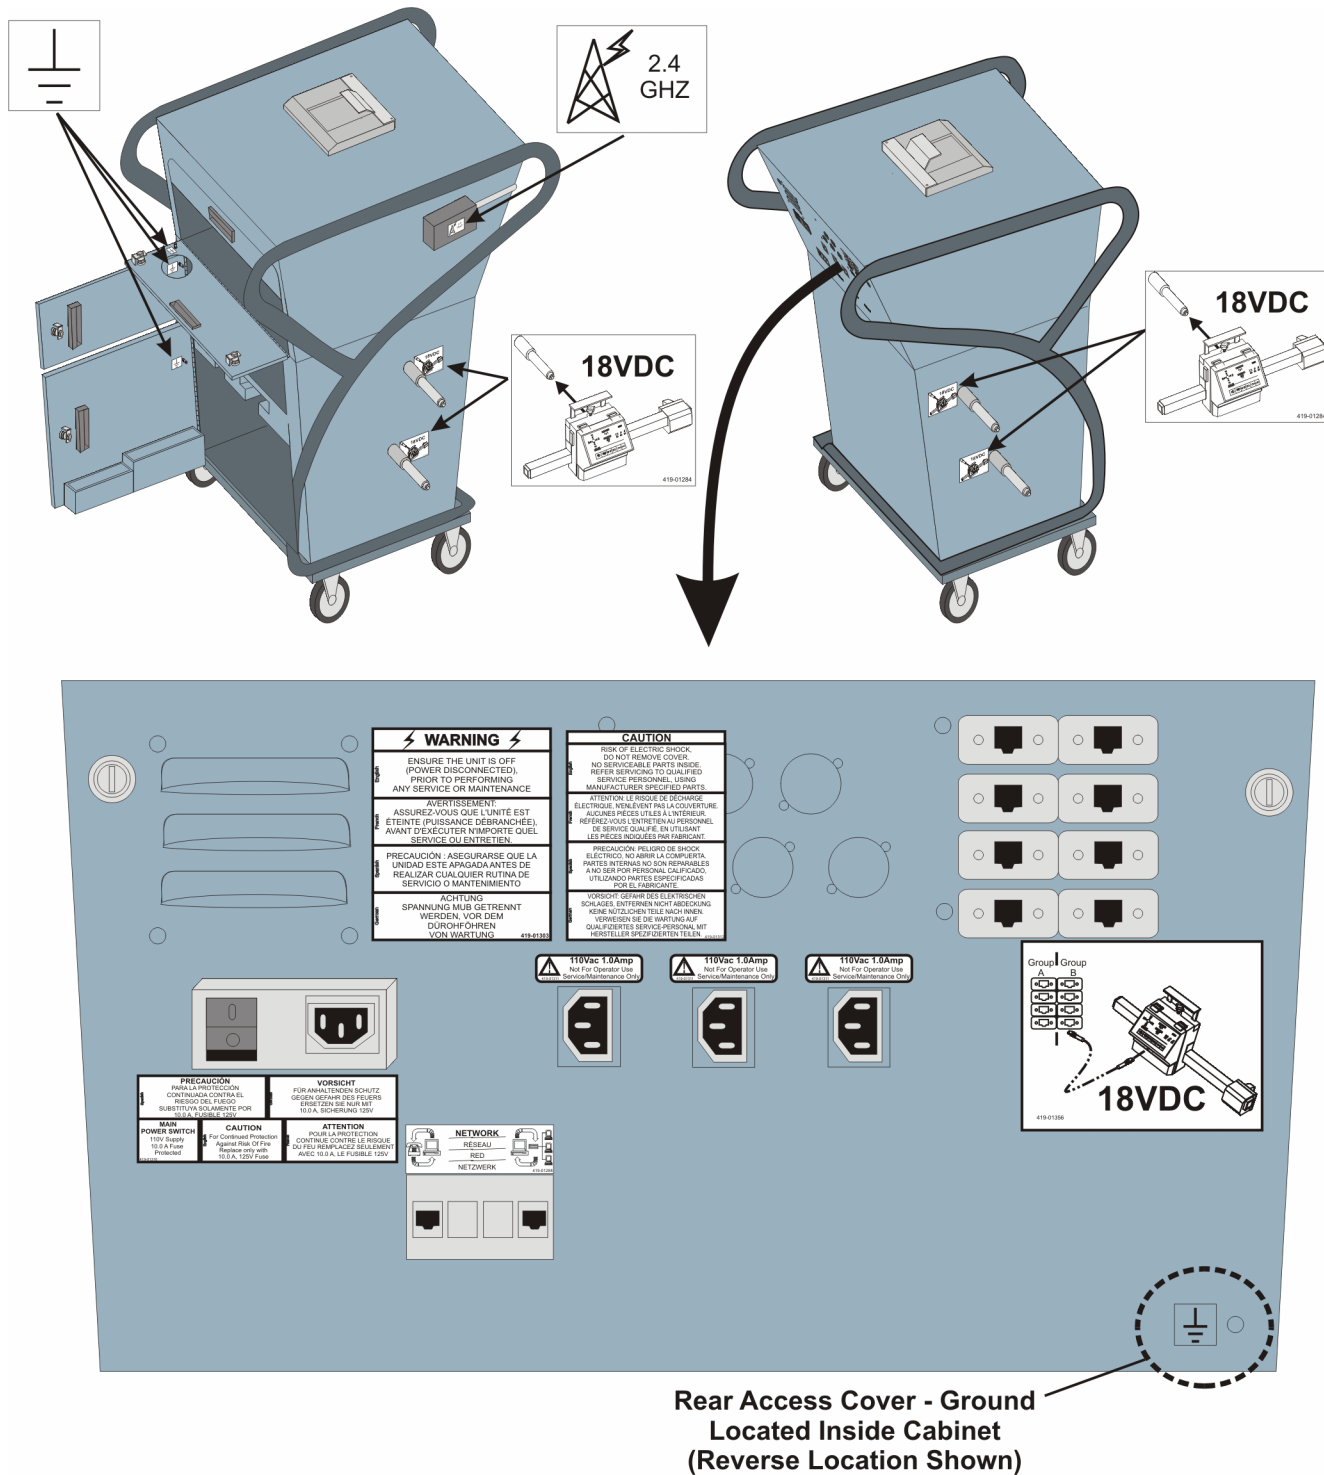

Figure 2-4. Locations - Informational Data Plates and Decals
- 2.2.4.4 Data Plates and Decals. The data plate for this unit is located on the back left-hand side of the cabinet. There are numerous decals applied to this unit, identifying components and their intended use. Figure 2-4 depicts the exterior decals and the data plate, users can expect to encounter when using this system.